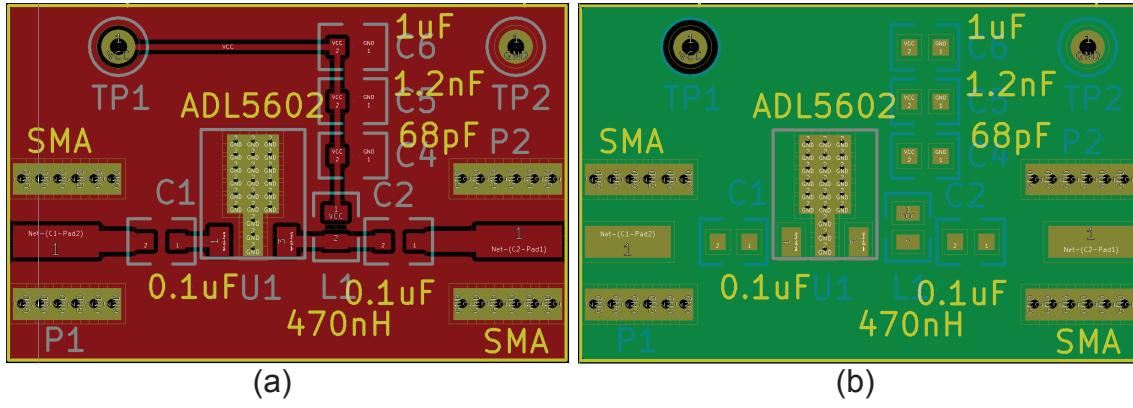

Figure 48: Layout of the example 2 circuit after copper filling. (a) Front side. (b) Back side. Note that the component footprint is always visible.
4. Once the fill zones have been defined, right click on anywhere in the main layout window and select "Fill or Refill All Zones" to create the copper fill. Fig. 48 shows the copper filled layout. Notice that the gap between the trace and the fill is uniform everywhere. This is because we set up only one fill zone. Setting up multiple fill zones will allow you to have multiple separations.